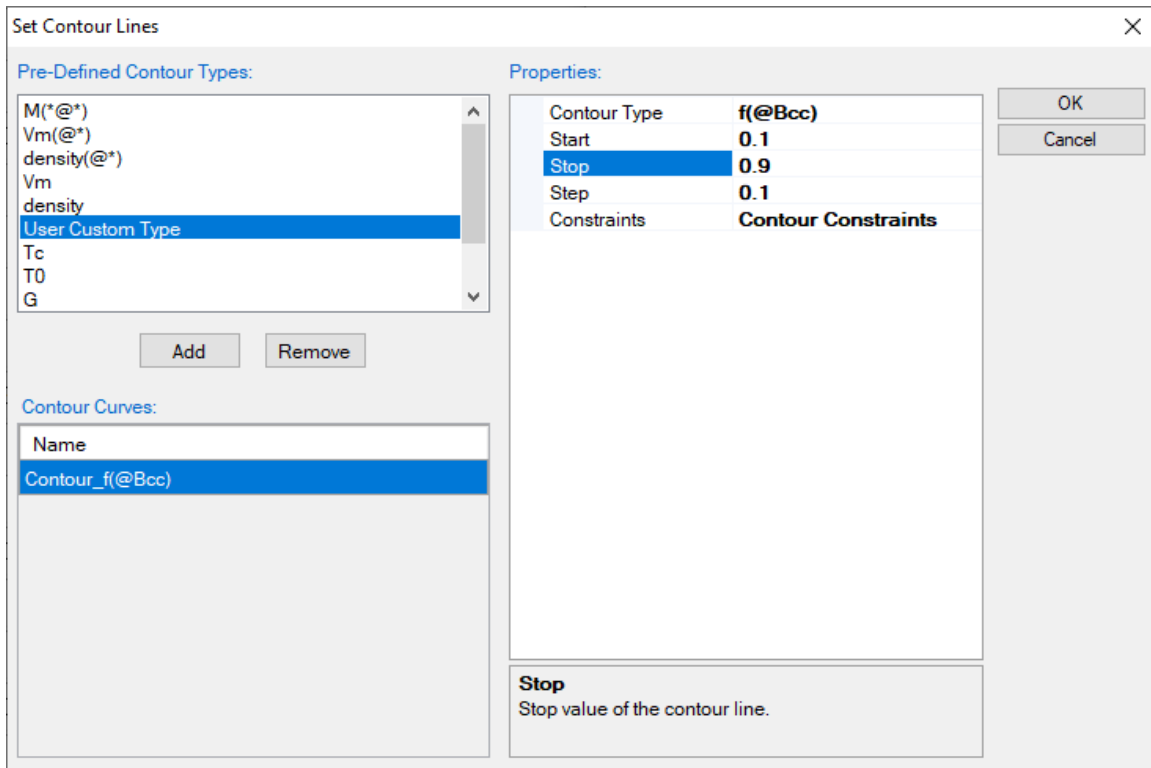

Figure 1.19.2: Setup contour lines as the fraction of Bcc (β) phase
- Click “Contour Lines” in the dialog shown in Figure 19.1, then set the Contour Type as shown in Figure 1.19.2;